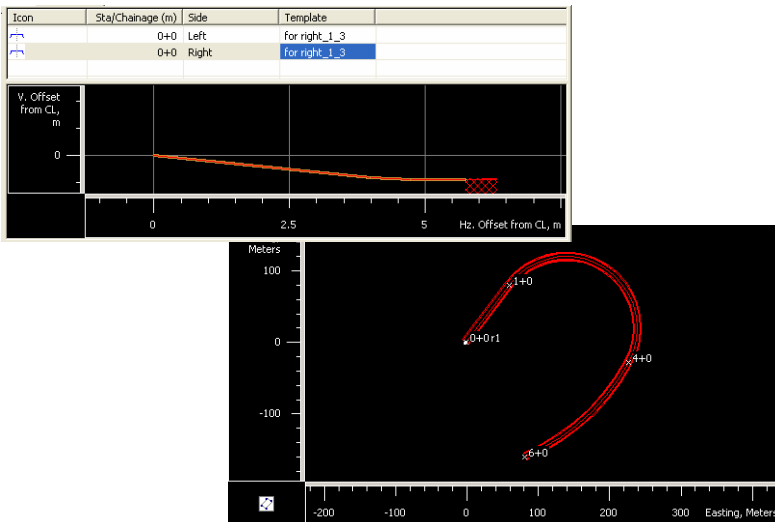

Figure 9-63. Example Using One Template
3. Click **OK** to add this template to the central line of the road for the start station. The template will display in the Table and Graphic panes of the right panel of the tab and in CAD View. Topcon Tools applies interpolation to cross sections from the first station to either the last station of the road (using only one template (Figure 9-63)) or to the start station of the next template.